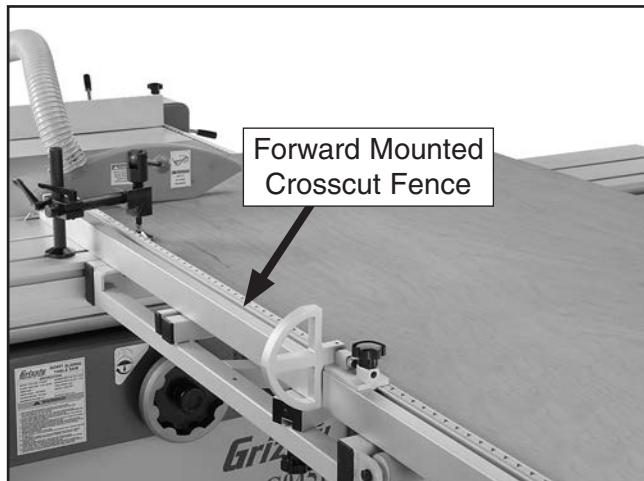

Figure 89. Crosscutting full size panel.
The Model G0493 can crosscut full size panels with the fence in the forward or rear position, although it is easier to load full size panels with the crosscut fence mounted in the forward position (see **Figure 89**).
4. Load the workpiece onto the table saw. The set up should look similar to **Figure 89**.